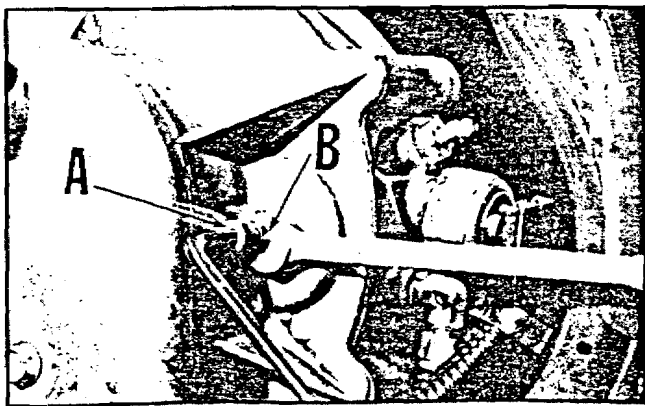

Figure 2
Replace brake pads when allen adjusting screw (A) (figure 2) makes contact with locknut (B). Brake pads should be replaced in pairs. See your dealer for replacements.
1. **Excessive Brake Pad Clearance** — Loosen allen screw adjuster locknut. Turn adjuster screw clockwise until pads are tight against disc, then back off screw 1/2 turn counterclockwise and re-tighten locknut (figure 2). There should be a minimum of .015" clearance between the brake pads and the brake disc.